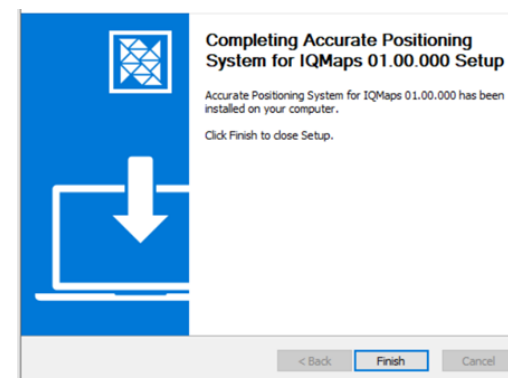

Fig. 21 APS install step 4
5. Press **FINISH** to complete installation (Fig. 21),